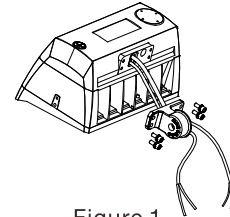

Figure 1
1. Adjustable fitter mounting (AM)
STEP 1: Remove the bracket mounting screws on the fixture and run the wires through the bracket (FIGURE 1)